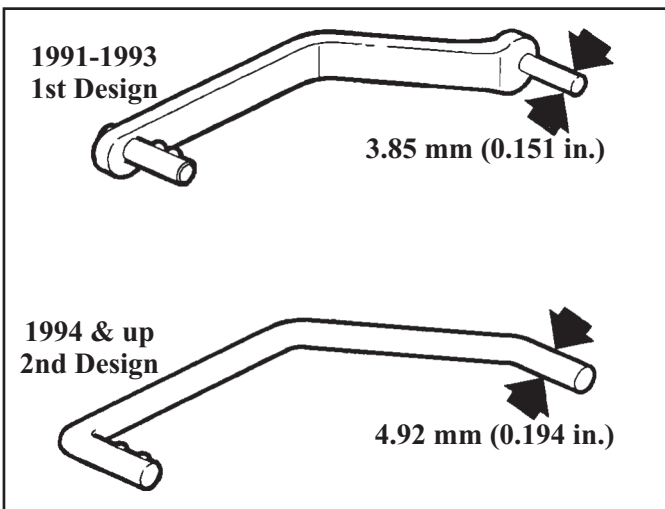

Figure 214
**IMPORTANT:** For 1994, the manual valve link has been changed from a stamped steel form to a one piece wire form link (See Figure 214). There is no change to the end of the manual valve link that is attached to the manual detent lever. BUT, the end of the manual valve link that attaches to the manual valve has increased in diameter from 3.85 mm (0.151 in.) to 4.92 mm (0.194 in.).